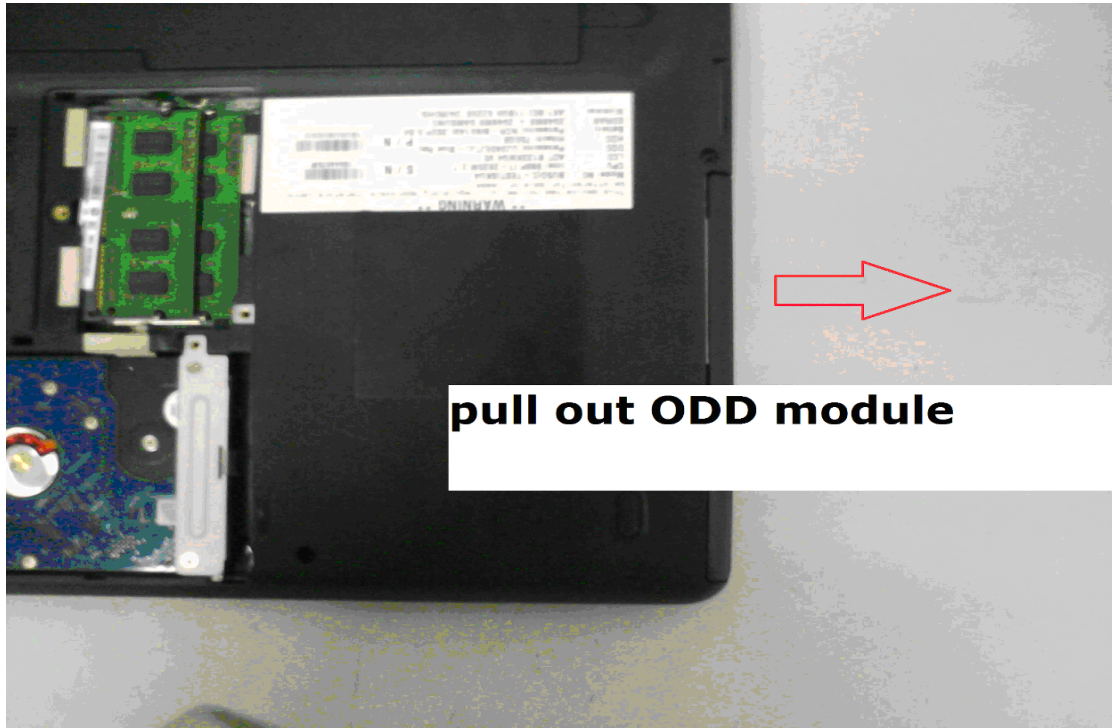

Figure 4-5-2 Pull out ODD module
4. Pull out ODD module. (Figure 4-5-2).